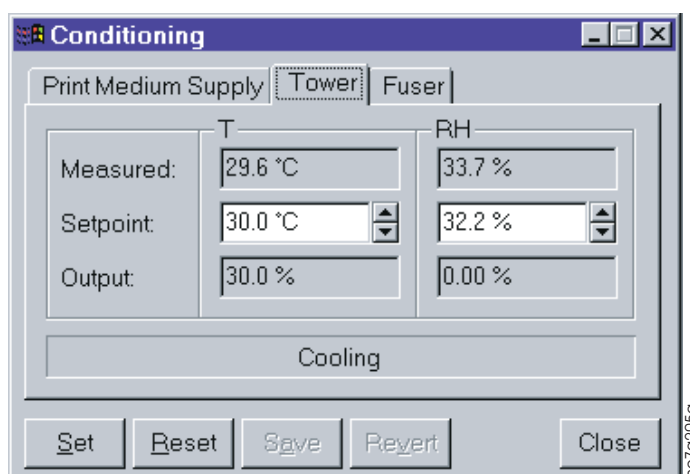

Figure 119. Tower Conditioning Window
1. Open the **Conditioning** window, as shown in Figure 119.